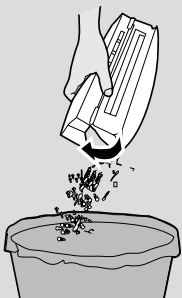

Fig. 18
2. Hold the dust container over a dust bin. [Fig. 18]